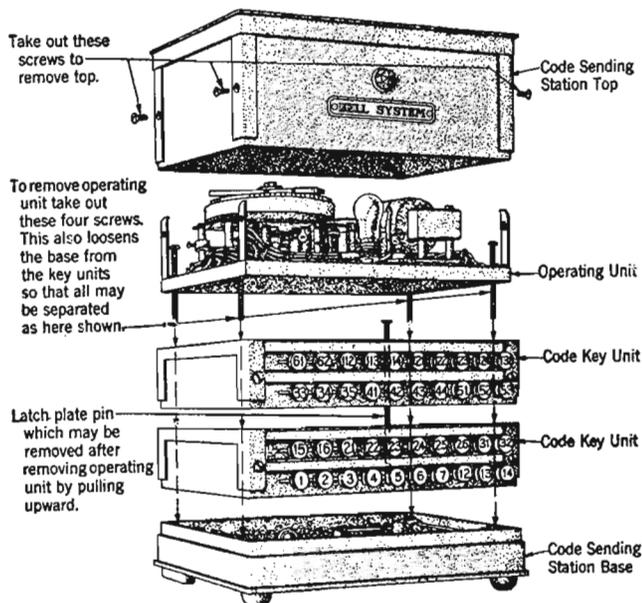

Fig. 1—40-Code Sending Station for 1A System
2.01 A method of disassembling and reassembling the code sending station is shown in Fig. 1.